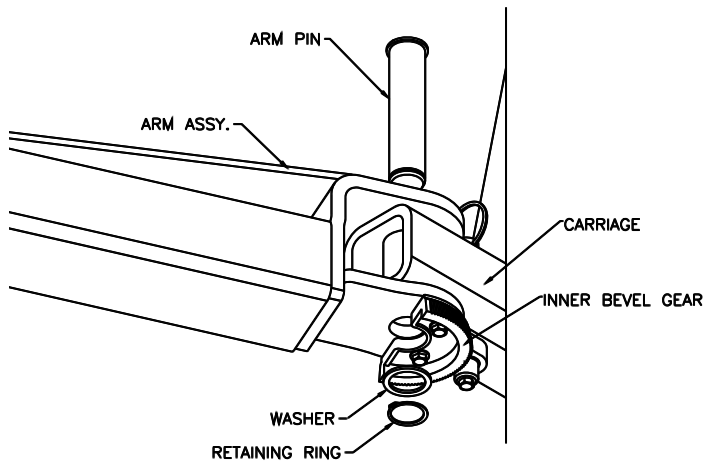

Fig 28 –Arm Pin Keeper Install
- 90) Install the provided retaining ring onto the pin with tool, Fig 28.